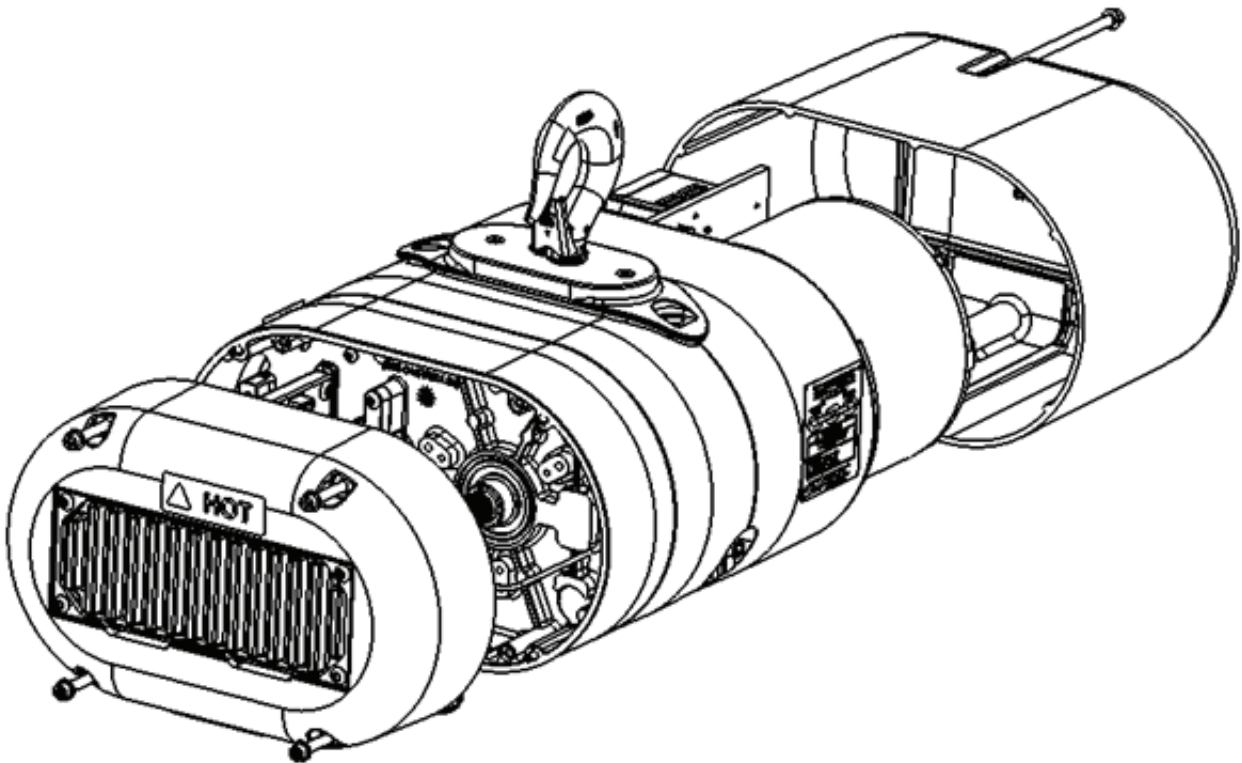

**Figure 11: M12 Data Port Cable and Connection**
2. Disconnect the M12 data port cable (**Figure 11**) from the VFD using a small flathead screwdriver and tighten the loose screws back down.